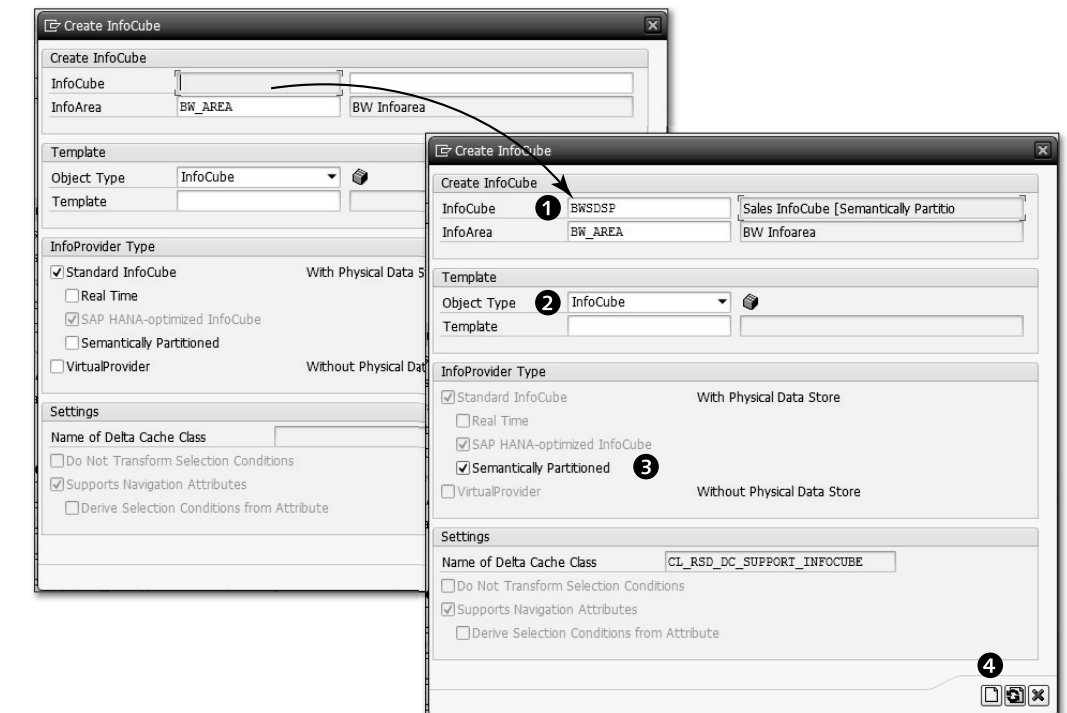
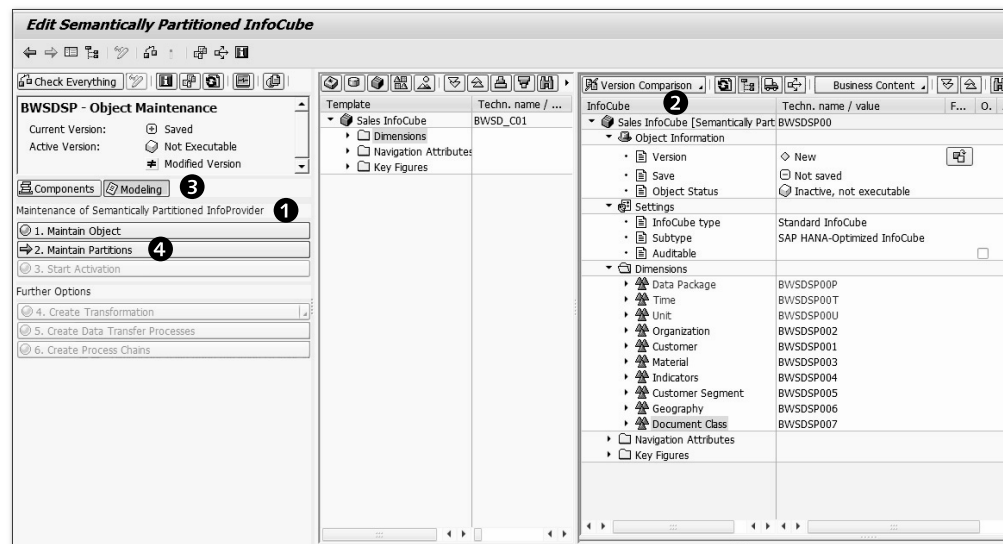
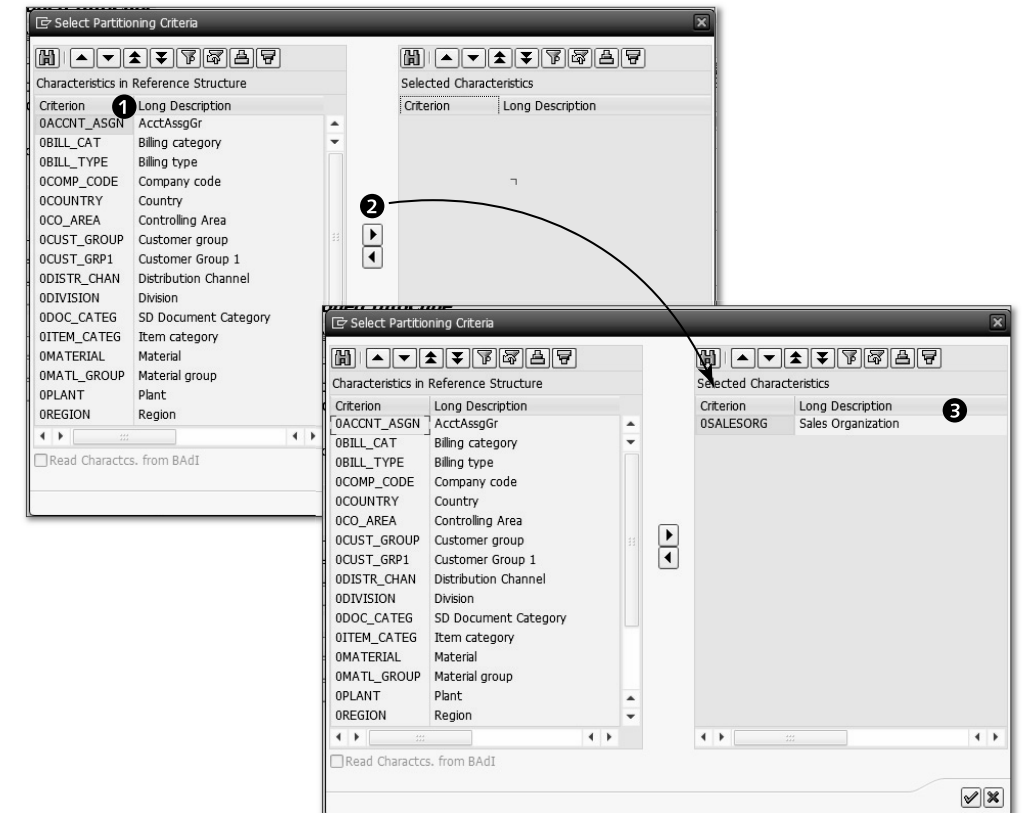

Figure 6.39 Creating an SPO: Part 2
Figure 6.40 Editing an SPO
Figure 6.41 Partitioning Criteria
Select the InfoArea under which you want to create your SPO ❷. From the context menu, select CREATE INFOCUBE ❸. The CREATE INFOCUBE screen appears, as shown in Figure 6.39.
Enter the technical name and description of the SPO (❶ of Figure 6.39). In our example, the SPO's technical name is "BWSDSP", and its description is "Sales InfoCube [Semantically Partitioned]". You can also use an existing InfoCube as a template to create a new SPO by entering the name of the existing InfoCube in the TEMPLATE field. In our example, InfoCube "BWSD_C01" is used as a template ❹.
Because this is a semantically partitioned InfoCube, select the SEMANTICALLY PARTITIONED property, as shown in ❸ of Figure 6.39. Click on the CREATE icon ❹. This takes you to the screen where you define the reference data model for the SPO (Figure 6.40).
In the left panel shown in ❶ of Figure 6.40, there are six steps to define and configure an SPO:
The right side of the screen, as shown in ❷ of Figure 6.40, displays the definition of InfoCube BWSD_C01, which is taken as the template. The system first creates the reference structure using InfoCube BWSD_C01 as the template. The system
names this reference structure BWSDSP00 and refers to it when a new partition for an SPO is designed. All of the dimensions, navigational attributes, and key figures of BWSD_C01 are available here. As shown in ❸ of Figure 6.40, the MODELING section is selected by default. The COMPONENT section displays the included components of the SPO. Click on MAINTAIN PARTITIONS ❹ to open the SELECT PARTITIONING CRITERIA screen, as shown in Figure 6.41.
All of the characteristics of reference structure BWSDSP00 are displayed here (❶ of Figure 6.41). Select characteristics from the left-hand side that should be used to partition the data semantically; for our example, we use characteristic OSALESORG (Sales Organization). Select OSALESORG, and click on the TRANSFER icon ❷. Characteristic OSALESORG is now available under SELECTED CHARACTERISTICS ❸. Click on the OK icon ❹ to continue with the definition of the SPO. This brings